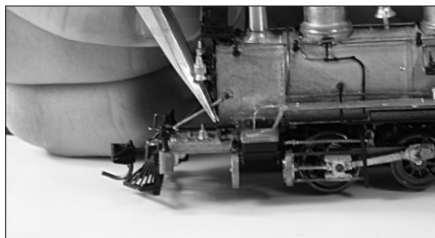

Figure 13 - Remove the boiler supports.
4. Remove the boiler supports from each side of the smokebox as shown in Figure 13.